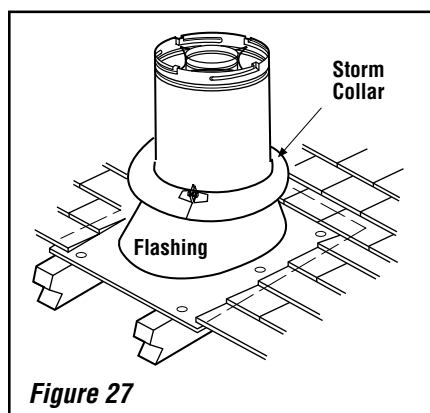

Figure 27
I. Install the roof flashing - Extend the vent sections through the roof structure. Install the roof flashing over the vent section and position such that the vent column rises vertically (use carpenter's level) (**Figure 27**). Nail along perimeter to secure flashing or adjust roofing to overlap the flashing edges at top and sides only and trim where necessary. Seal the top and both sides of the flashing with waterproof caulking.
J. Install the storm collar - Install the storm collar, supplied with the flashing, over the vent/flashing joint. See **Figure 27**. Loosen the storm collar screw. Slide collar down until it meets the top of the flashing. Tighten the adjusting screw. Apply non-combustible caulking or mastic around the circumference of the joint to provide a water tight seal.